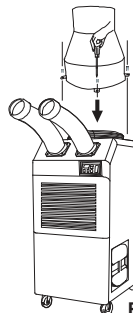

Figure 6
3. Use screws (enclosed inside of box with duct) to install duct on air conditioner as shown in Figure 6.